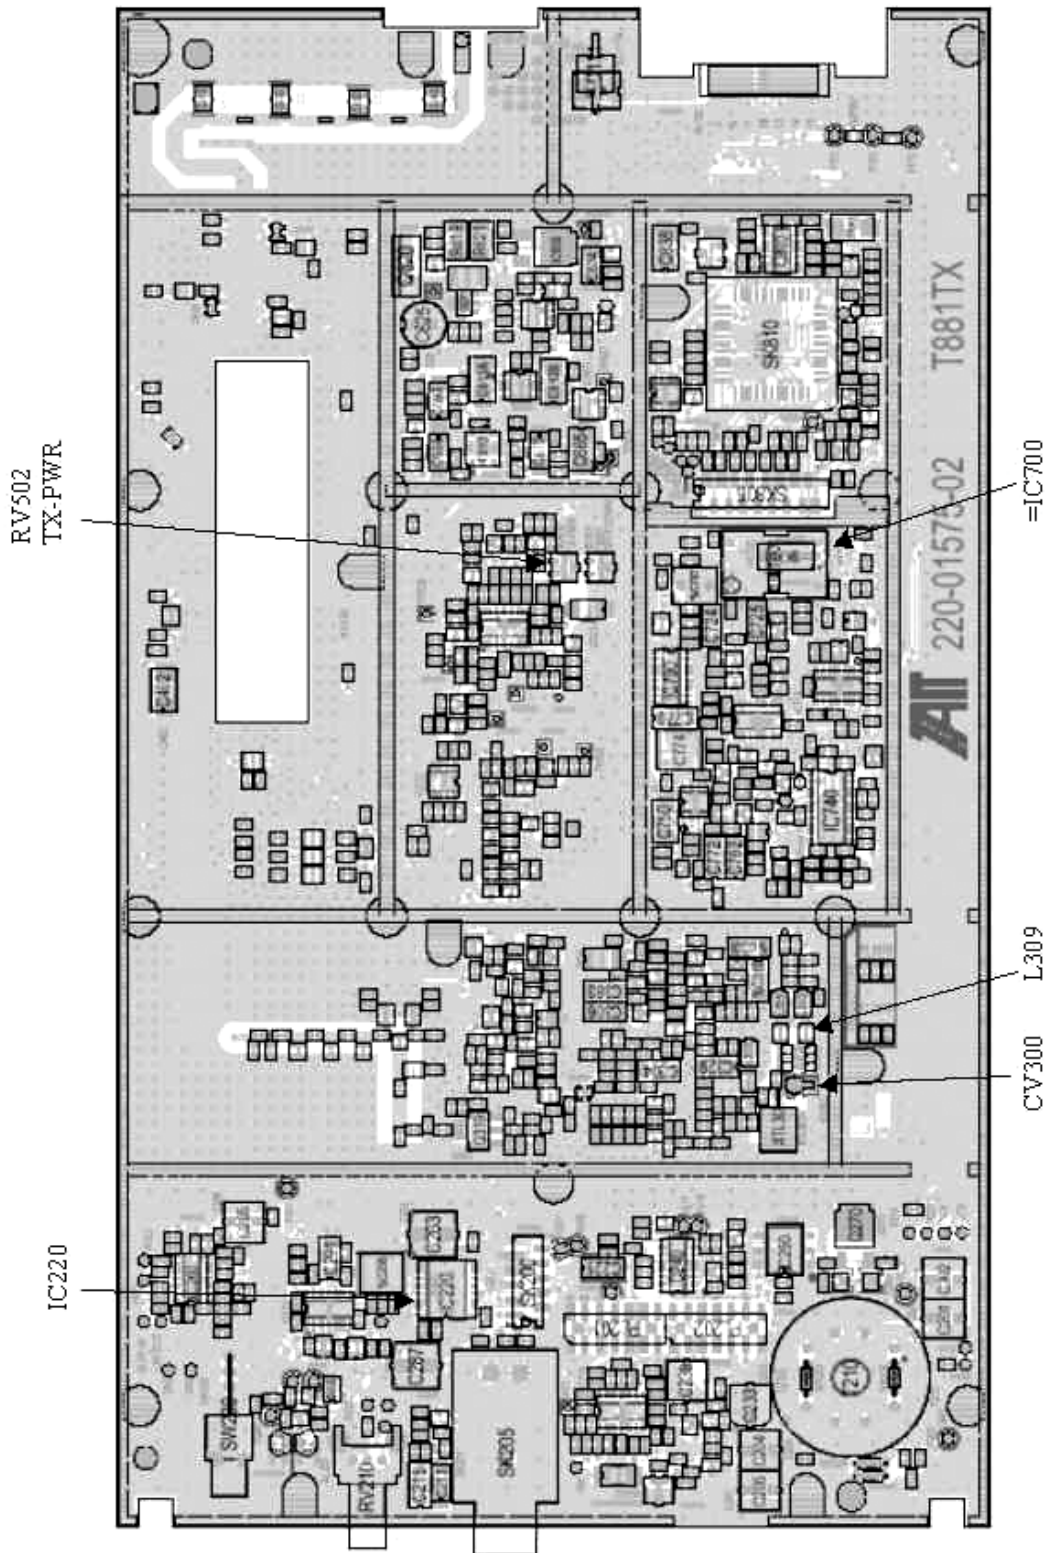

Figure 28 - T881-0200 Exciter Tuning Controls Locations
- 800/900 MHz (T881) = 4W  $\pm 300$ mW (RV502, Figure 28)